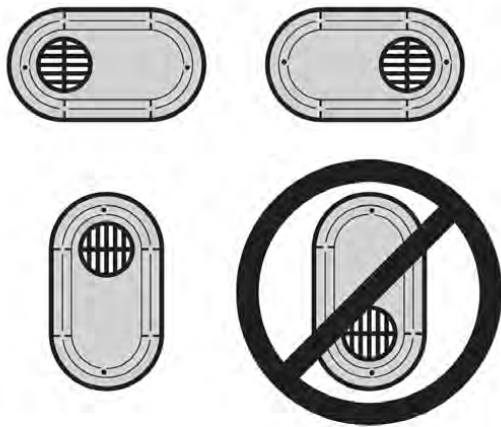

Figure 1. Possible orientations of low profile 2-pipe termination
1. Low profile terminations must be installed in the proper orientation. See Figure 1 for possible mounting orientations.